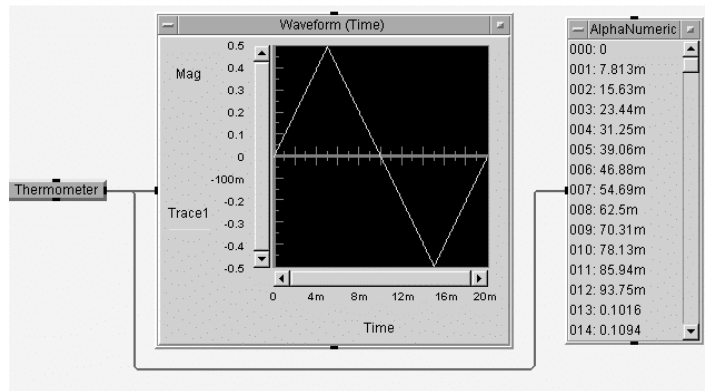

Figure 1.10. Final program for Lab 1.3
21. Select Menu Bar => Display => AlphaNumeric; place it to the right of Thermometer; connect input pin to output pin (X) of Thermometer. See Figure 1.10.